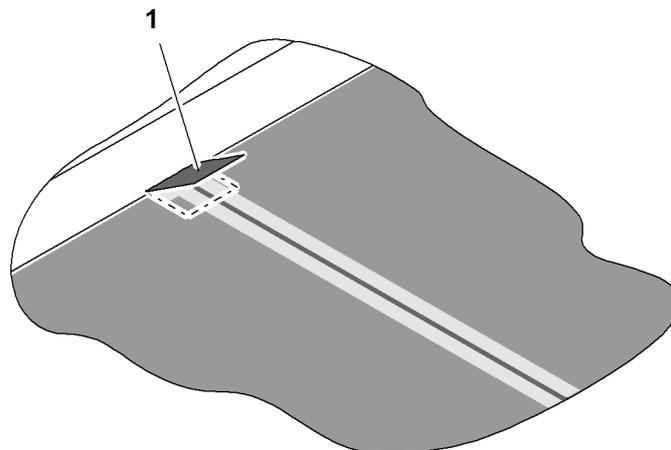

Fig. 7-23 Reinforcing the edges
- ⇒ Reinforce the left and right edges using gaffer tape (Fig. 7-23, item 1) to prevent the conveyor belt from tearing